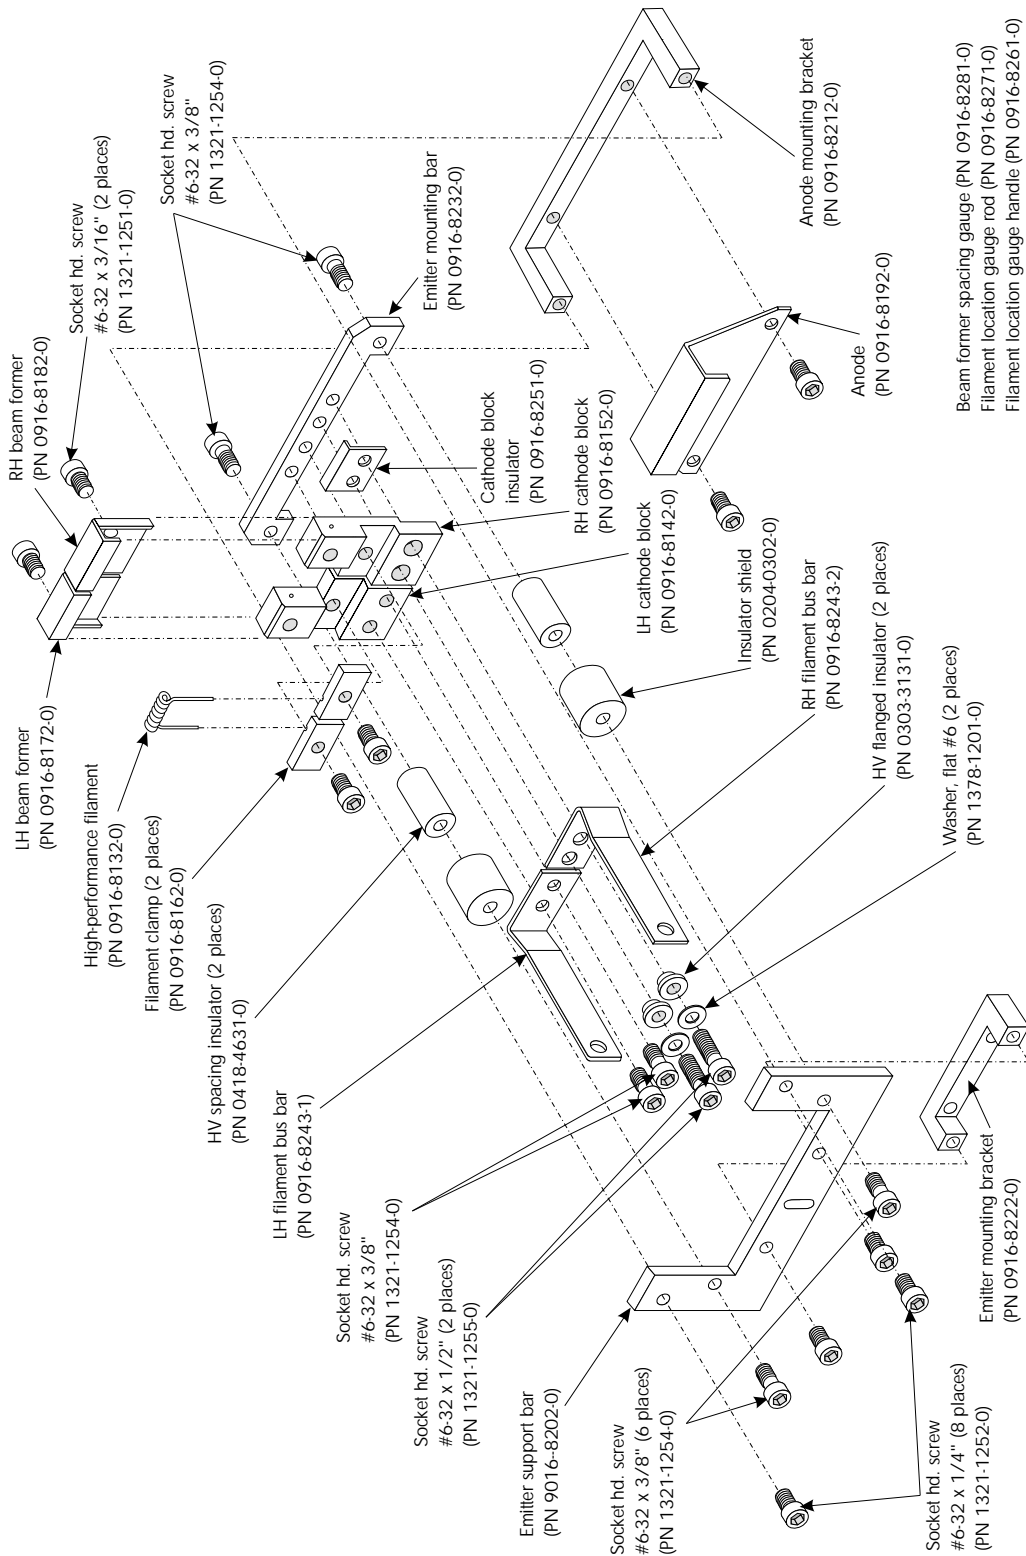

Figure 4-3. Exploded view of high-performance emitter
2. Examine all screws as you disassemble the emitter and replace any that show signs of thread damage or distortion. Damaged screws are likely to become frozen in place during subsequent source operation, resulting in breakage or thread stripping the next time you attempt to remove them. Coat all screws that you do reuse with molybdenum disulfide (ROCOL or equivalent). When replacing screws, use only stainless steel 6-32 socket-head screws of the correct lengths (see Figure 4-3). All screws must be vented so as to create a path through which gases trapped between the threads can be pumped out. To minimize virtual leaks, it is important that the underside of the screw's head as well as its threads be vented. For best results, use the screws that are available from Temescal, as they come machine vented in the correct manner.
| 5 | Put the cathode block insulator in place on the emitter mounting bar. Figure 4-3 indicates the insulator's correct position, with its top tab facing rearward and its holes aligned with the two right-hand holes in the emitter mounting bar. |